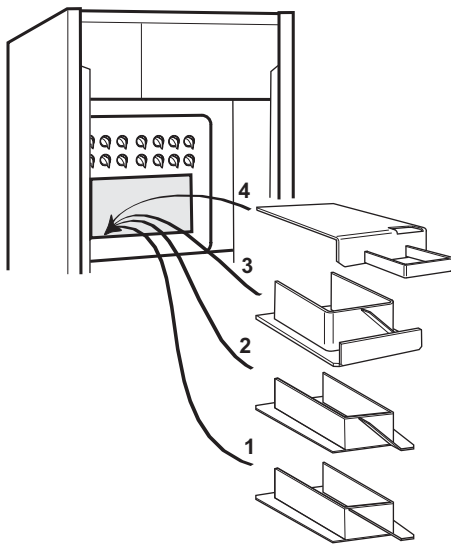

Fig. 24 - 15/21 baffles
- 2 Remove the baffles as shown in Fig. 24, 25 or 26.
- 6 Replace the baffles, ensuring they are correctly fitted. See Fig. 24, 25 or 26.